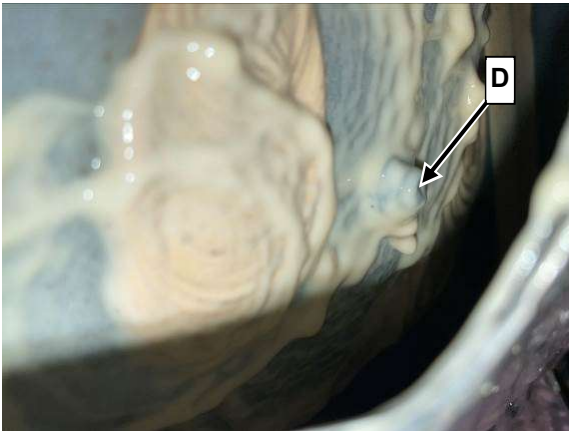

**Figure 7**
- Then the right-side (**Figure 7, E**) must be drilled and riveted.